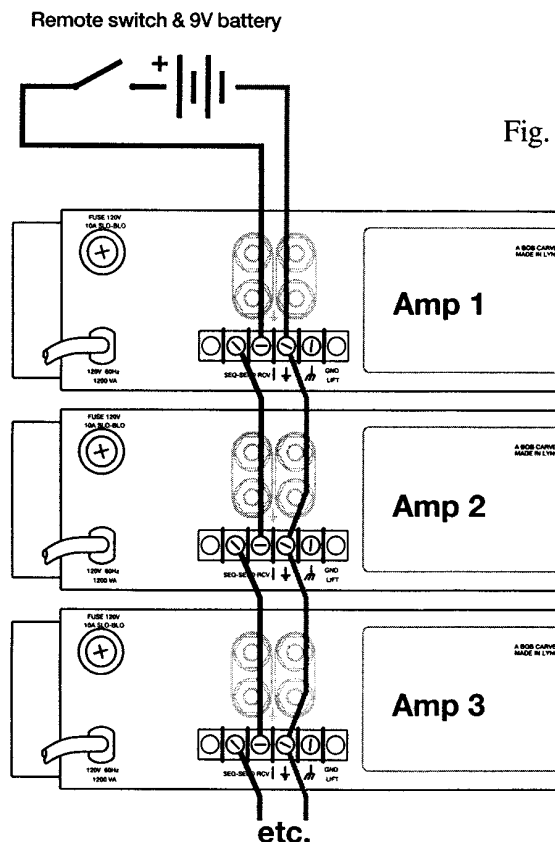

Fig. 3
of another Carver amplifier. Connect that amplifier's SEND terminal to the RCV terminal of the next amplifier in line, and so on. The last amplifier in line has nothing connected to its SEND terminal. This is illustrated in Figure 3. If the GROUND LIFT strap is installed, then a common power supply ground connection will be made through the common chassis connection. In this case it not necessary to install the common ground wire shown in Fig. 3.
1. The first amplifier may be switched on remotely with a switch that supplies a DC voltage within +5v to +15v, (a common 9V battery will work fine). This is shown in Fig. 3; OR